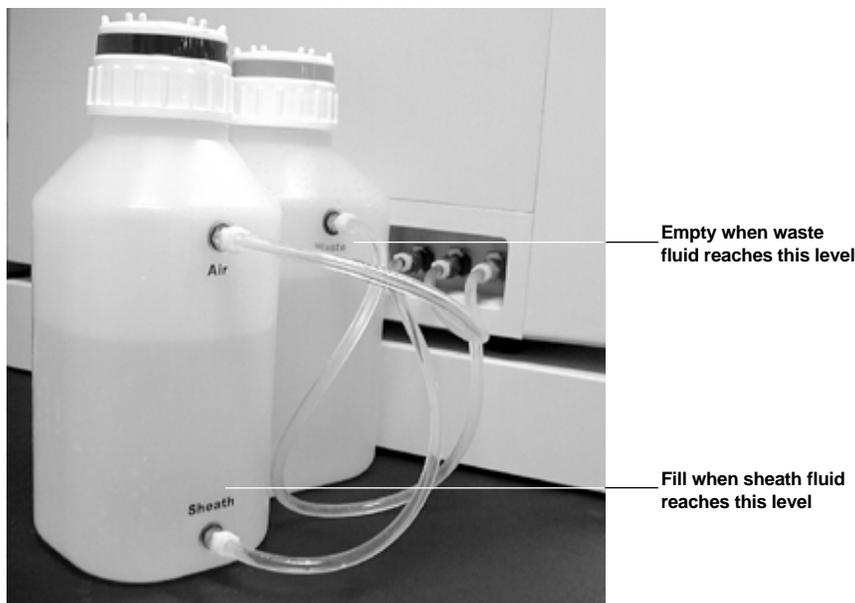

Fig. 10. Waste and sheath fluid bottle connections.
2. Fill the sheath fluid container with sheath fluid supplied in the 20-liter container (catalog # 171-000055) to just below the air intake. Tighten cap (See Figure 10).